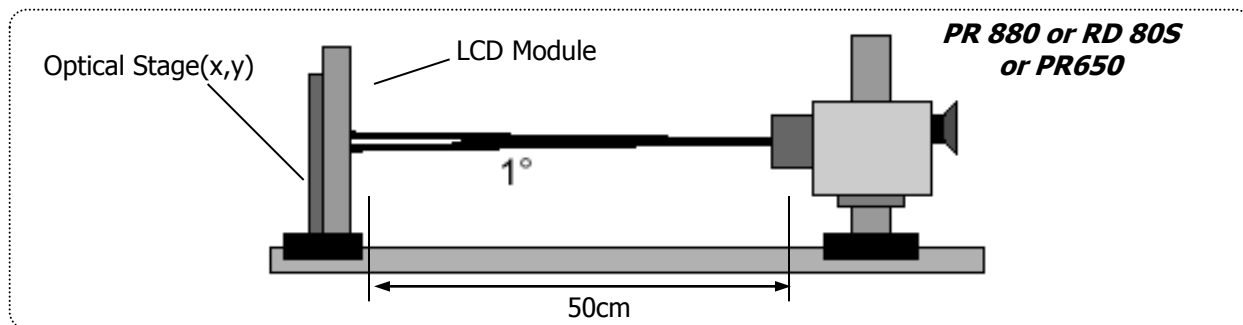

FIG.7 Optical Characteristic Measurement Equipment and Method
FIG. 7 presents additional information concerning the measurement equipment and method.
2. Surface luminance(L_{WH}) is luminance value at Center 1 point(P1) across the LCD surface 50cm from the surface with all pixels displaying white. For more information see FIG 7. (By PR880)